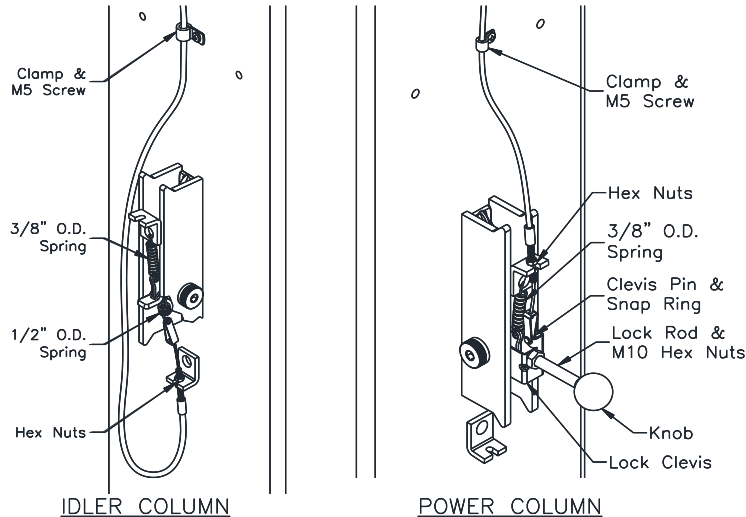

Fig. 8 – Lock Assembly
- 28) Attach Mechanical Lock Release Cable Assembly to each lock pawl. See Fig. 8.